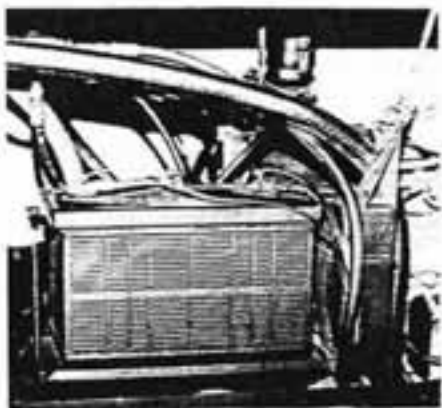

Figure 2
1. Inspect and clean, if necessary, all battery connections if corrosion is present and check tension of battery hold-down bracket. See Figure 2.